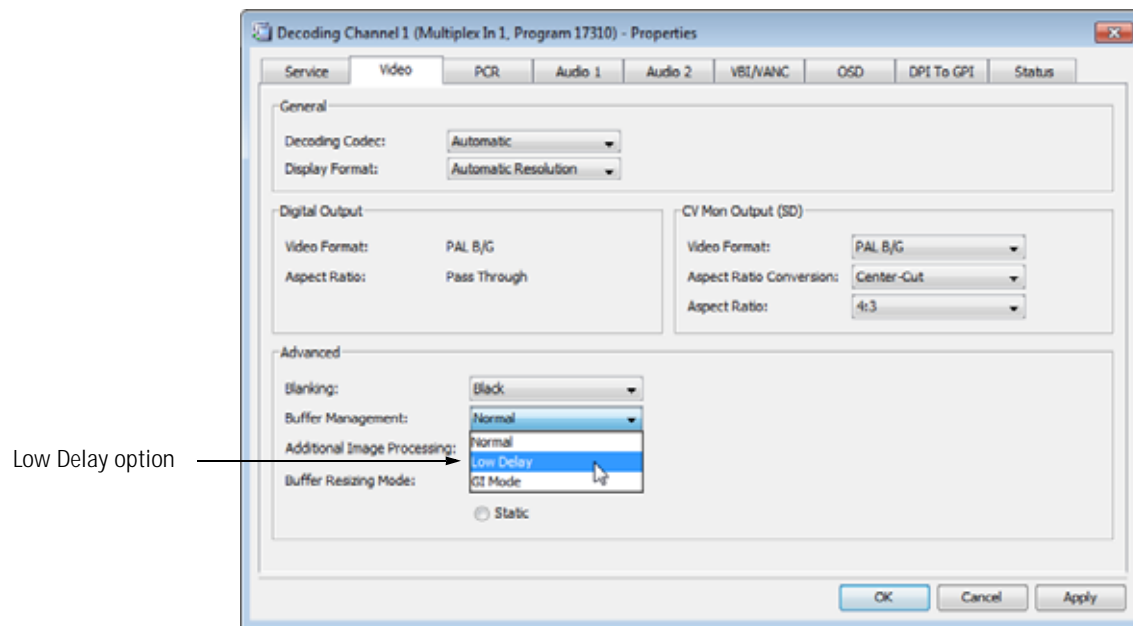

Figure 7–37: Selecting Low Delay Mode
4. Select **Low Delay** for **Buffer Management** in the **Advanced** box, see Figure 7–37.